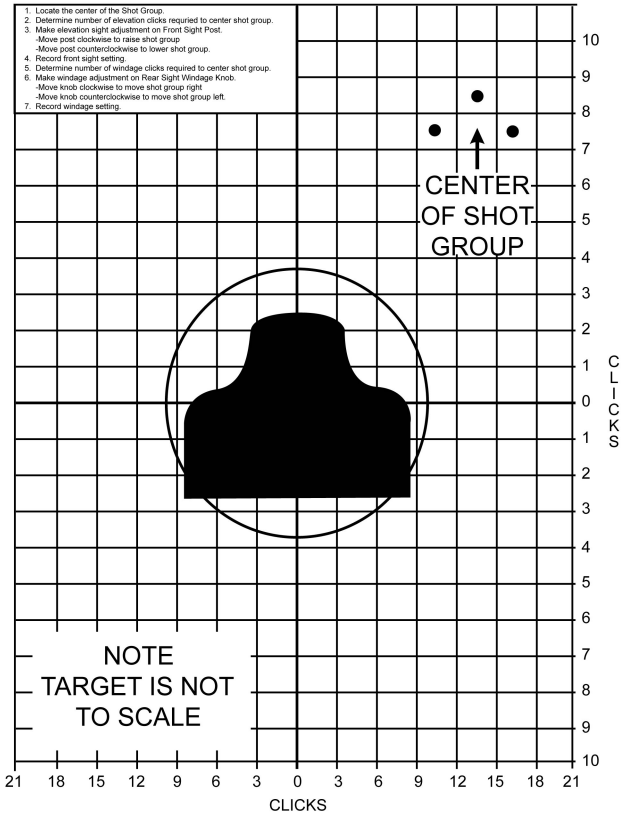

Figure 2-20. BZO Target
- (1) Elevation (Front Sight).
- (a) Identify center of shot group on BZO target. Refer to Figure 2-20.